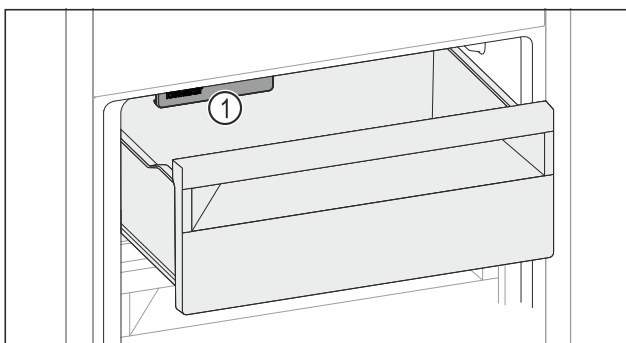

Fig. 169
- ▶ Huomioi IceMaker Fig. 169 (1).